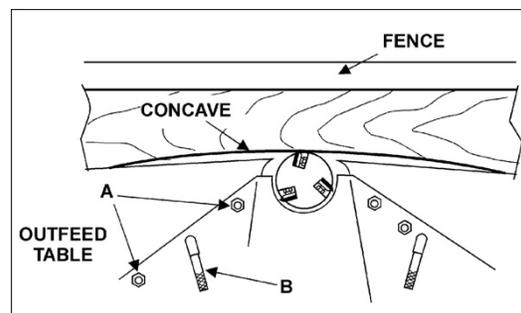

Figure 26
Refer to Figure 26.
To spring cut, the outfeed table is lowered below the level of the cutterhead, as shown in Figure 26. Loosen both gib screws (A) on the outfeed table. Amount of end-drop is controlled with the table lock screw (B). Tighten handle to reduce amount of drop. A 1/32" drop usually creates the ideal concave for spring joints. After completing a spring cut, return the outfeed table in line with the cutterhead knives.